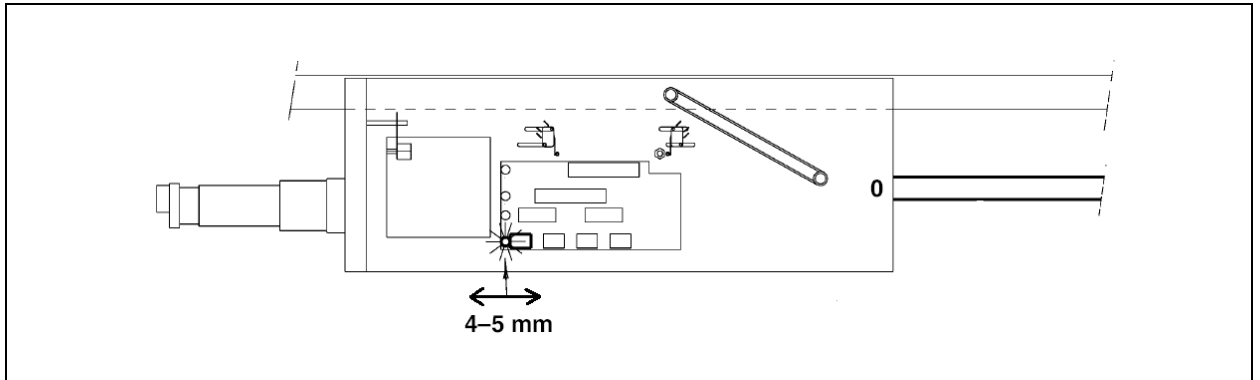

Fig. 136 - Adjustment of the plate under the 4 sensors
2. Mount the indication plate so that the first sensor '0' is activated once the actuator has shifted the switching plate 4-5 mm, see fig. 136